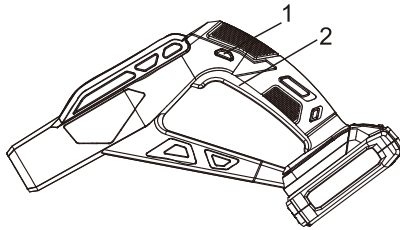

Fig. 11
1. Press the lock-off button (1) (Fig.11).
2. While continuing to press the lock-off button, squeeze the trigger switch (2).